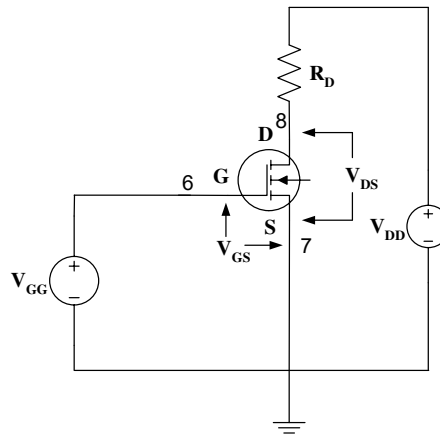

Figure 3. Circuit for measurement of I-V characteristics of an NMOSFET.
4. Connect the circuit as shown in Figure 3 and set $V_{GG} = V_t + 1V$ from the trainer board variable power supply.
1. You have V_t and K_n . Note that here K_n is equivalent to $K'_n(W/L)$ of the text. For three V_{GG} ($V_{GG} = V_{GS}$) values of Figure 3, use the linear (triode) and saturation current expressions to tabulate the I_D for each V_{DS} and plot the I_D - V_{DS} curves using your calculated and experimental data on the same graph. Use MATLAB for plotting.
4. Simulate the circuit shown in Figure 3 using PSPICE. For simulation use MbreakN3 MOSFET and DC sweep analysis with nested loop for the three different values of V_{GG} . To set the parameters, double click on MbreakN3 and set W and L to 1E-6 (1 μ m). Now select MbreakN3 (it will turn red) and go to Edit $\rightarrow$ Model $\rightarrow$ Edit Instance Model (Text). Delete everything in the appeared window and write the followings (put your values of V_t and K_n) and click OK.